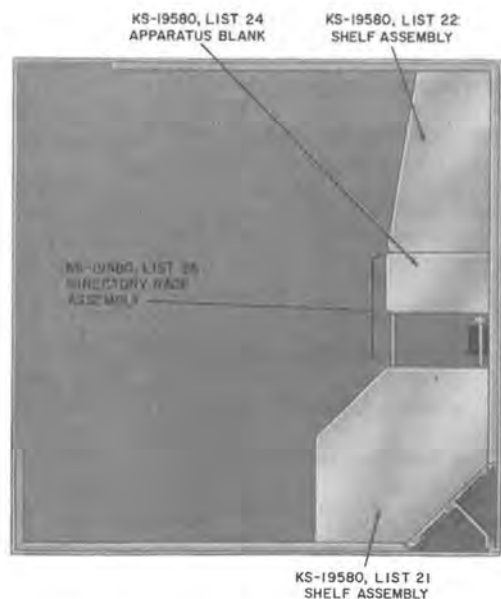

Fig. 8—Rear Wall Shelf Arrangement
- 2.21** Shelf assemblies, directory racks, and associated apparatus are listed in Table D and shown in Fig. 8 through 10.
KS-19580, List 21 Shelf Assembly (Fig. 8, 9, and 10)
KS-19580, List 22 Shelf Assembly (Fig. 8 and 10)
KS-19580, List 25 Directory Rack (Fig. 8, 9, and 10)
KS-19580, List 24 Apparatus Blank (Fig. 8 and 10)